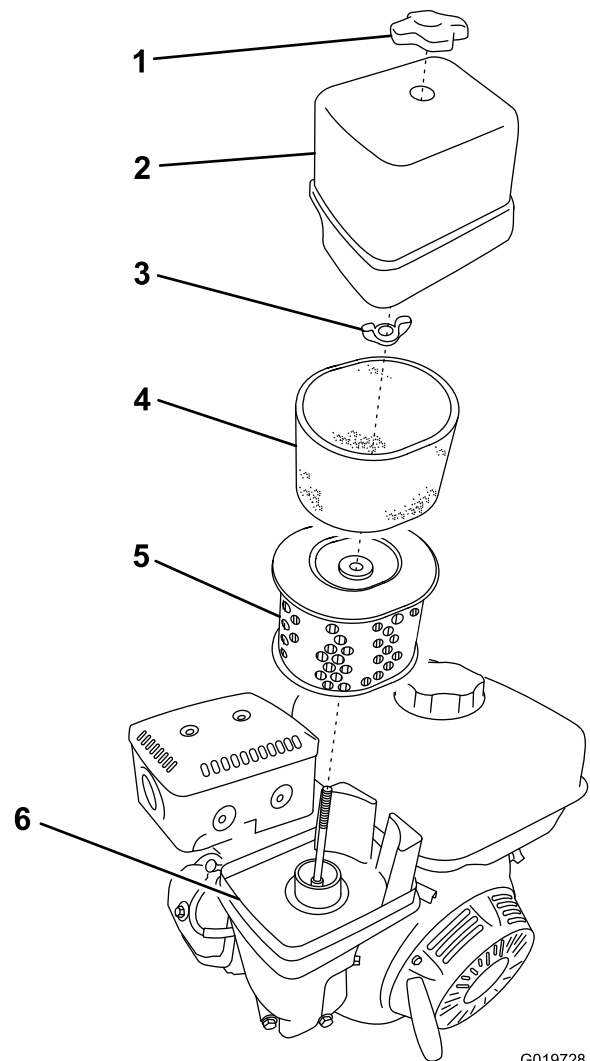

Figure 40
3. Remove the nut that secures the cover (Figure 40).
5. Remove the foam and paper elements from the base (Figure 40).
6. Remove the foam element from the paper element (Figure 40).